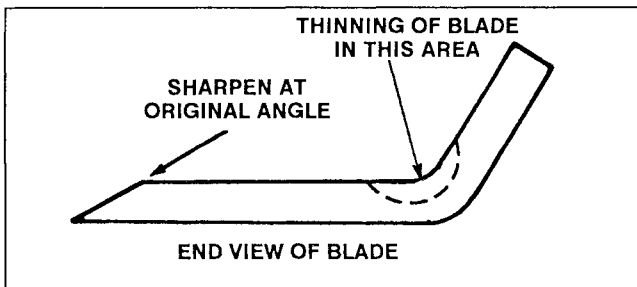

Figure 22
7. Using a file, sharpen cutting edge at both ends of the blade (Fig. 22).
Check cutter blade every time rider is tipped on end. If blade bolt holding blade is loose, tighten it to 45-60 ft-lb (61-81 N·m). If blade or sail (Fig. 22) at end of blade is worn, eroded, or cracked, replace the blade. Replace the blade if it is bent or out-of-balance. Always use genuine TORO replacement blades to ensure safety and best performance. NEVER USE WILL-FIT REPLACEMENT BLADES.